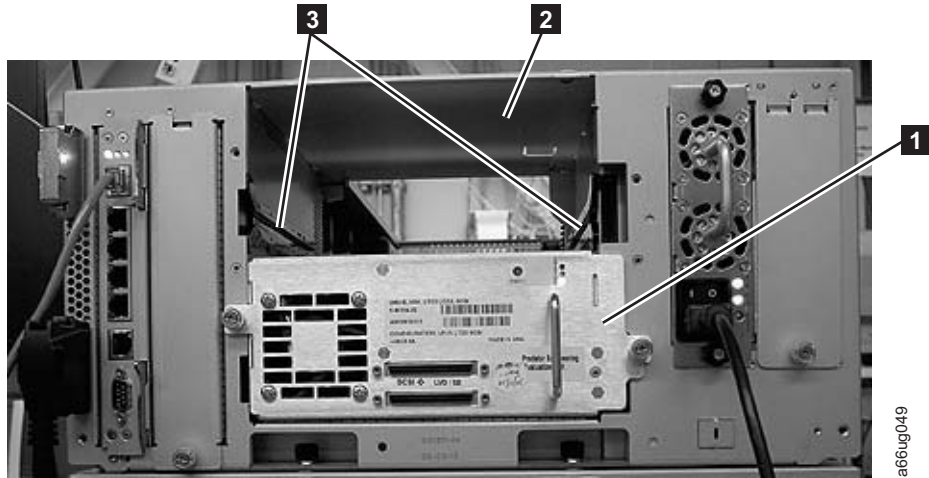

Figure 11-4. Control module with one SCSI drive installed and one open drive slot with cover plate removed
Figure 11-4 on page 11-7 shows a control module with one SCSI drive sled installed (**1**) and the empty drive slot exposed (**2**), after the cover plate has been removed.
- a. Insert the new drive sled into the empty drive slot. Use the guide rails on both the drive sled and in the drive slot (**3** in Figure 11-4), slowly slide the drive sled into the slot. The drive sled must be level to slide in smoothly.
1. Align the drive sled with the guide rails and guide slots along the tracks (**3** in Figure 11-4 on page 11-7) and slowly slide the drive into the library module, while supporting it from underneath.